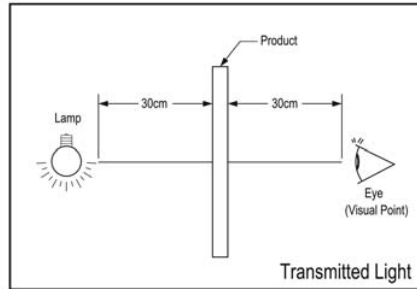
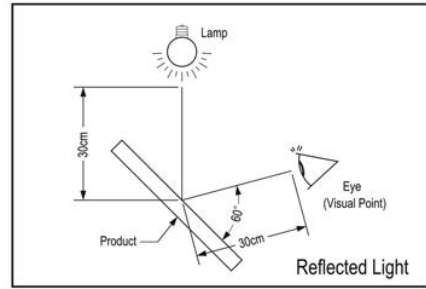

Figure 11-1
Figure 11-2
(1) A 17W fluorescent luminant lamp is used for appearance inspection. Detail settings are shown in (Fig 11-1) and (Fig 11-2).
[(1) 檢測始用之燈光為一盞 17W 白熾燈光，詳細的擺設方式，請參考圖(Fig11-1), (Fig11-2)]
(2) Minor impurities outside viewing area are acceptable unless their existence affect electrical functions.